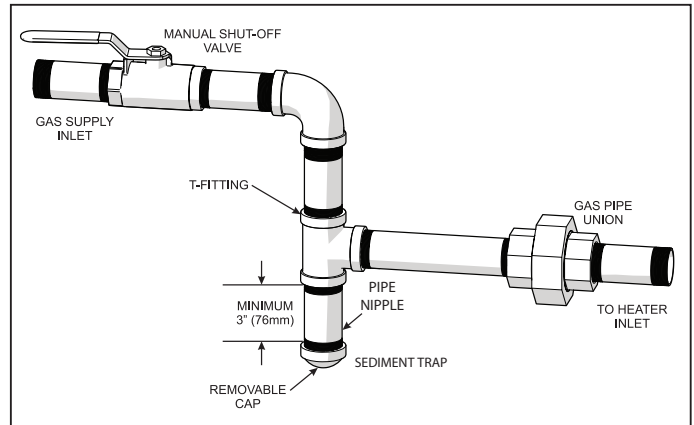

Figure 11. Manual Shut-off Valve and Sediment Trap
4. Install a sediment trap and union ahead of the gas controls and outside the heater panels, as shown in “Figure 11. Manual Shut-off Valve and Sediment Trap” on page 15. Do not use a restrictive gas cock. **DO NOT USE FLEXIBLE GAS PIPING**, it will restrict the gas flow to the heater.